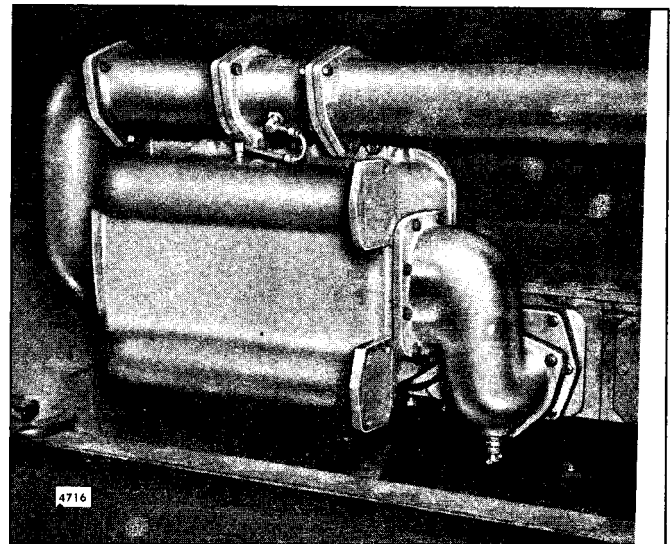

Fig. 2 - Torqmatic Converter Oil Cooler
To cool the lubricating oil used in a Torqmatic converter or a marine gear, a separate oil cooler core is mounted on the opposite side of the engine (Fig. 2).
5. Remove the three bolts and lock washers securing the oil cooler outlet elbow to the cylinder block and remove the outlet elbow and gaskets. On units equipped with a Torqmatic converter, remove the outlet elbow located at the bottom of the oil coolers (Fig. 2).